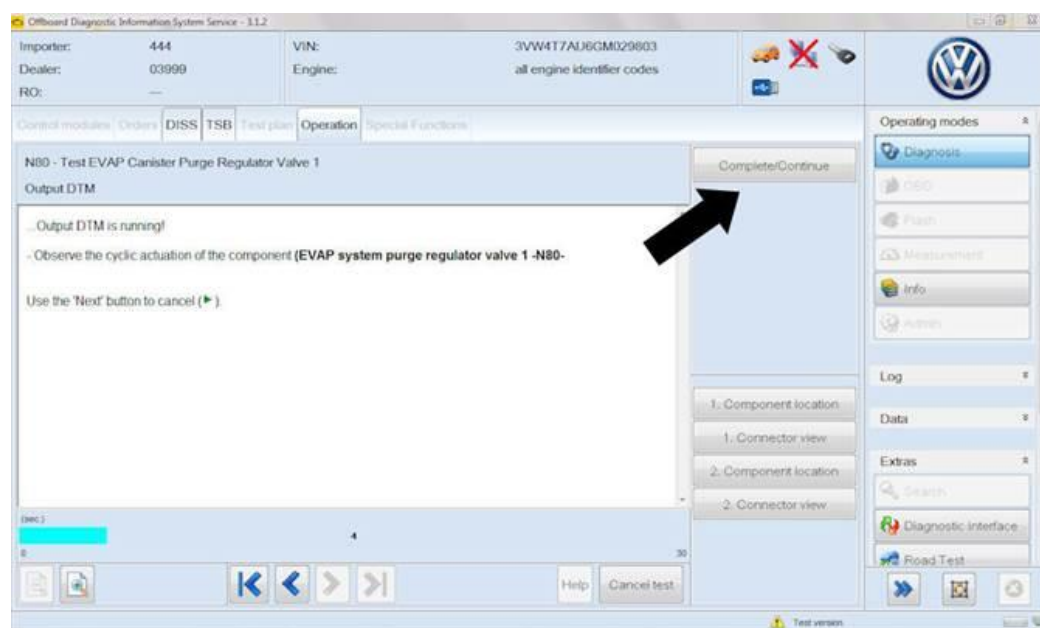

Figure 6
- If audible “click” noise is heard, the -N80- Activated Charcoal Filter System Solenoid Valve is operational (Figure 6, 7 and 8), and a vacuum check must be performed to verify if the valve is sealing properly.